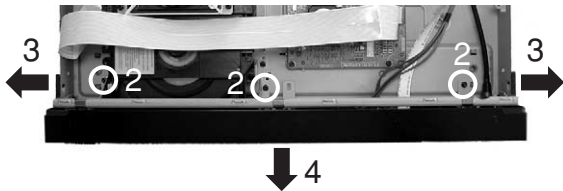

Fig. 2
- b. Remove the 3 screws 201. (Fig. 2)
- c. Release the 2 snap hooks on the sides and remove the front panel unit. (Fig. 2)